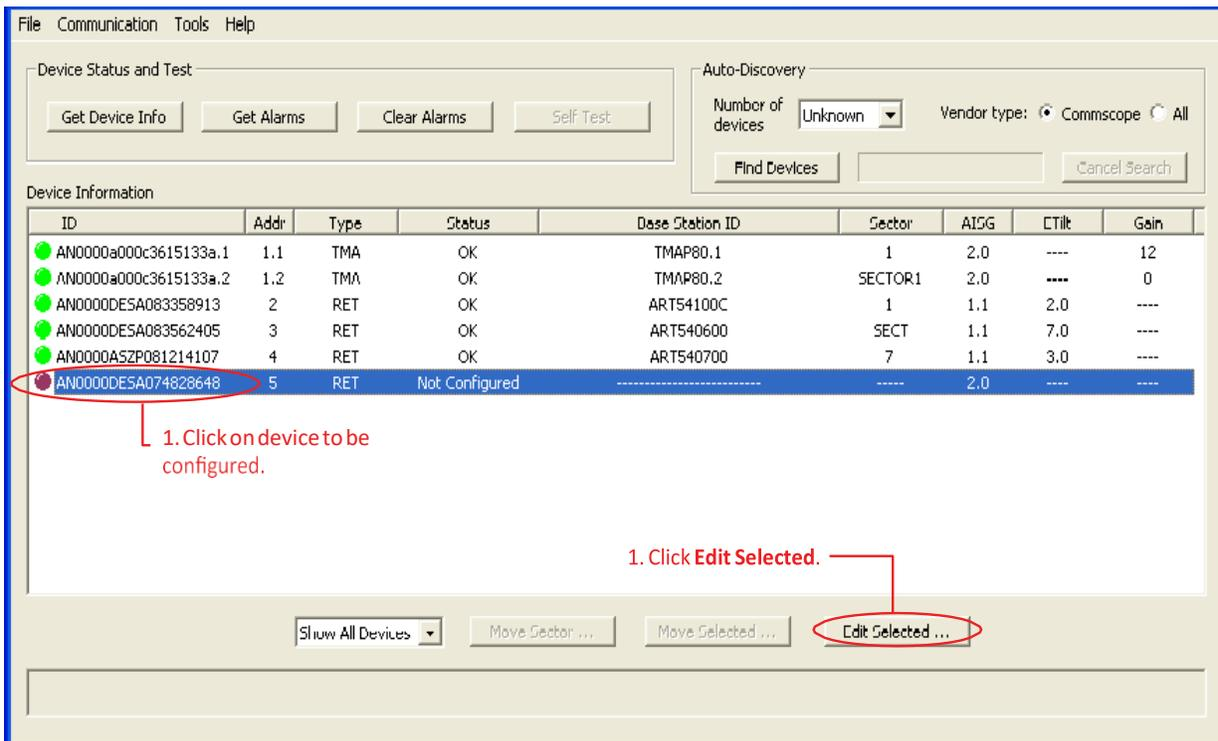

Figure 6-1. Selecting Device to be Configured.
1. To begin device configuration, click on the device to be configured (Figure 6-1).
2. Click on **Edit Selected** to open the **Configuring Device** screen (Figures 6-1 and 6-2).
- Note that not all of the items that were configured are displayed on the main screen. To verify that each of the items configured were set correctly, select the device in the **Device Information** list and click **Edit Selected** to review each item (Figure 6-1). Click the **Cancel** button on the **Device Configuration** screen when finished with verification.